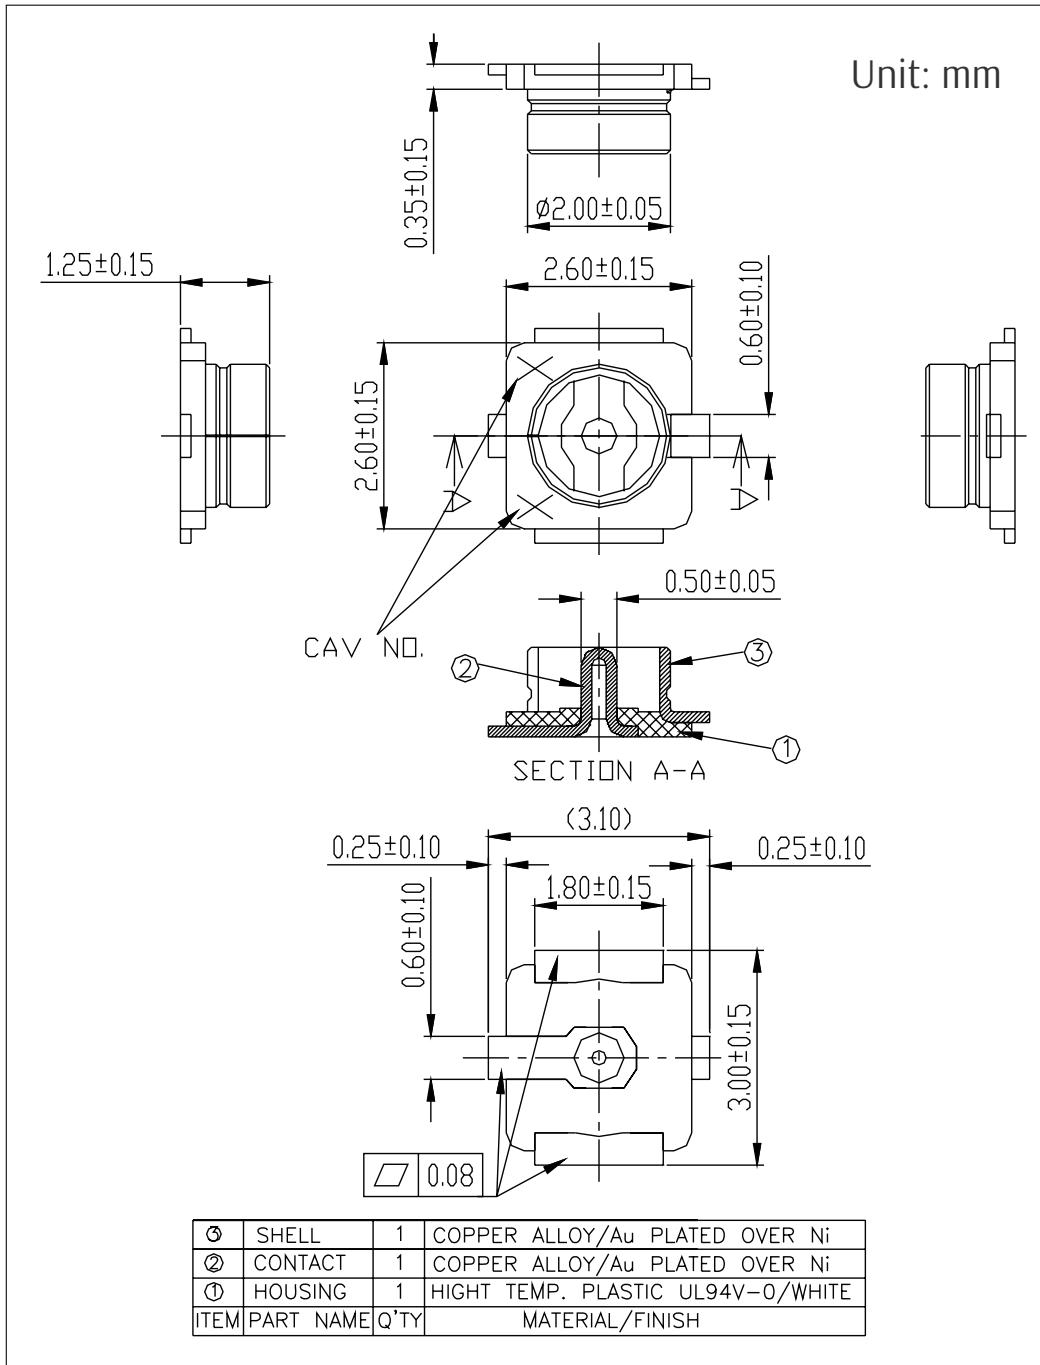

Figure 12: Dimensions of External Antenna Connector
ESP32-WROOM-32UE uses the first generation external antenna connector as shown in Figure 12 *Dimensions of External Antenna Connector*. This connector is compatible with the following connectors:
- The connector matches the specifications shown in Figure 12 *Dimensions of External Antenna Connector*